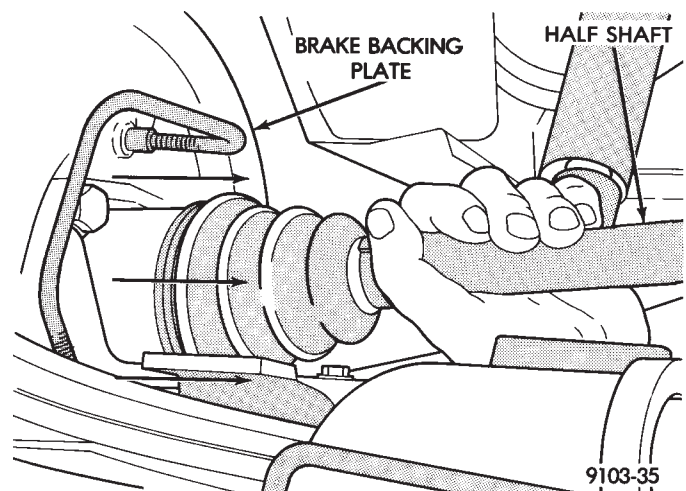

Fig. 4 Half Shaft Removal
(6) The half shaft is spring loaded. Compress inner half shaft joint slightly and pull downward to clear rear carrier output shaft. Then pull half shaft assembly inboard to remove (Fig. 4).